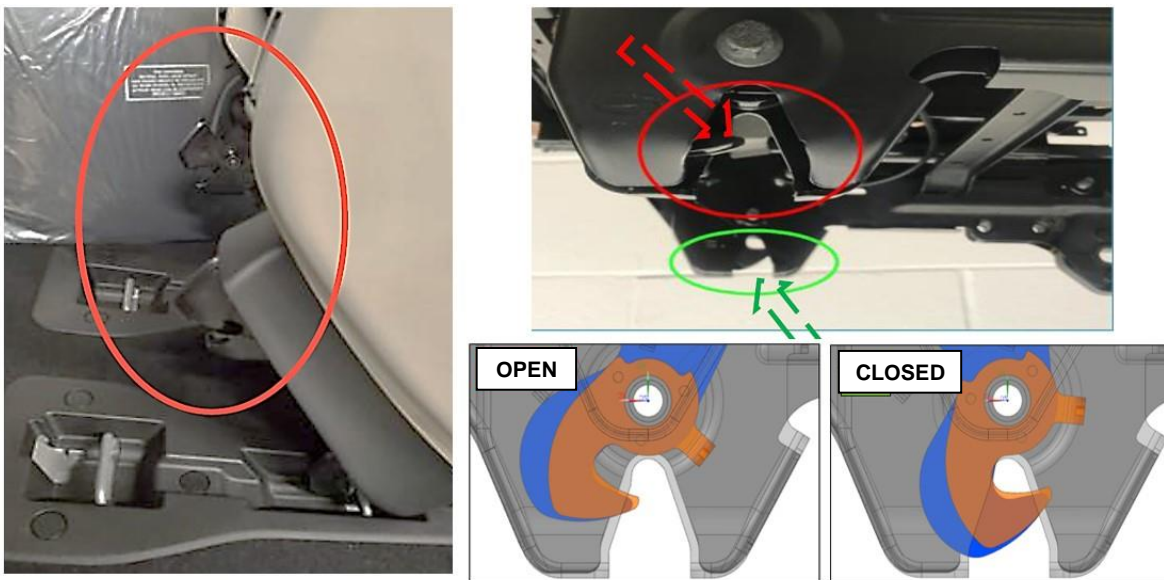

Figure 5 – Inspect Latch Position on Both Latches
6. Perform this inspection on both second-row seats. Visually inspect the latch position of **both** latches on each of the second-row seats (Figure 5).